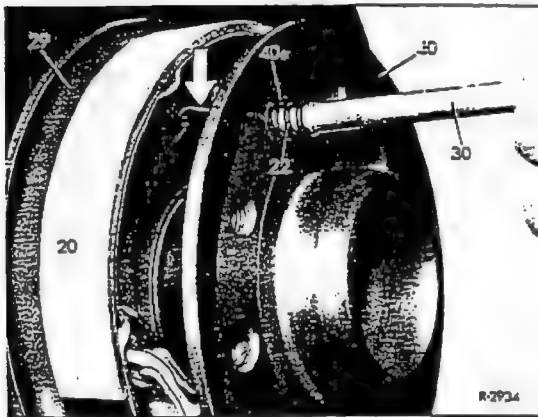

Fig. 42-28/5
6. On the 2nd version use Installing Tool 112 589 09 61 00 (30) and slightly depress the spring (22), turn it 90° and remove it (Fig. 42-28/5).